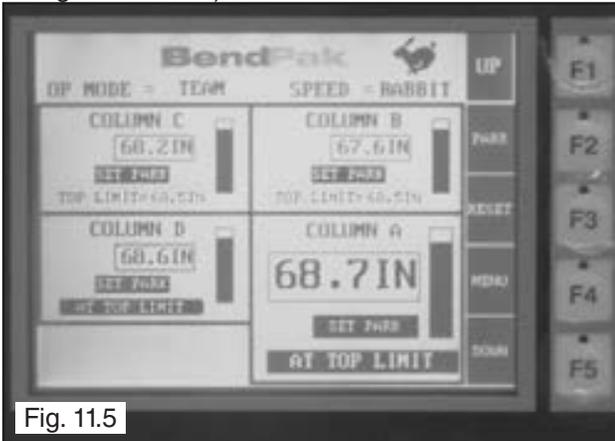

Fig. 11.5
-Bleed the cylinder(s), Calibrate the system and try again. (See Fig 11.5 & 11.6)